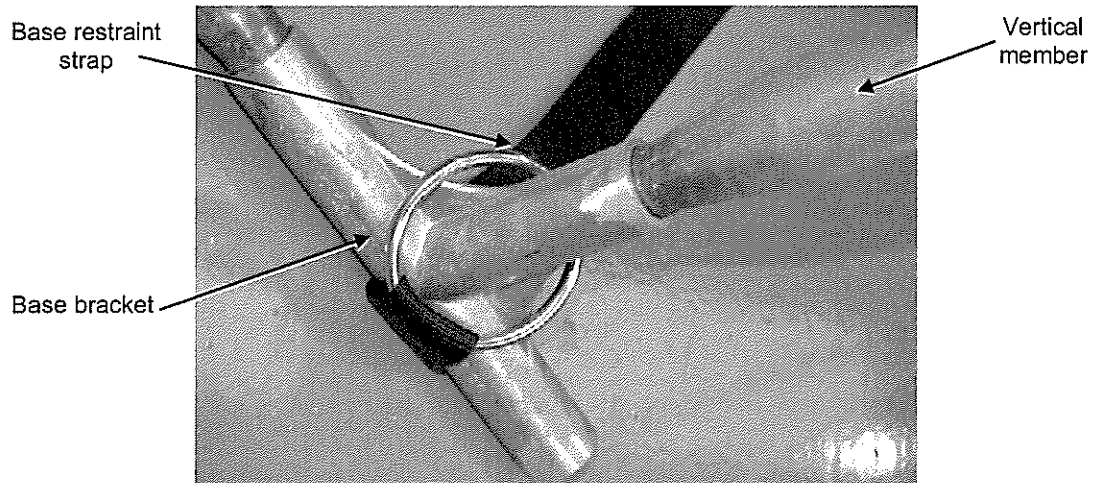

Fig 4 Base restraint strap fixing
11.1 Refer to Fig 4 and fit the base restraint straps.